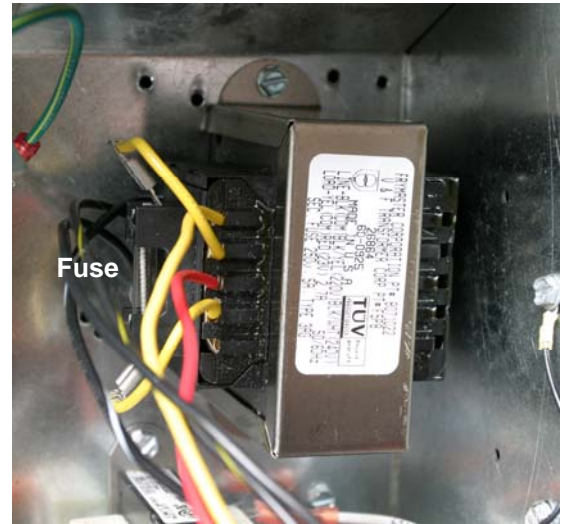

Figure 6: Position the 24-volt transformer as shown. See the wiring diagram (left and below) and the annotated wiring guide.
7. Install fuse and position the new 24-volt transformer (**see figure 6.**). Use the provided drill-point screws to secure it in the control box.